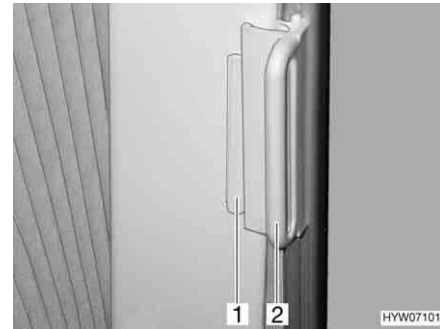

Fig. 13 Roman shade, open
- Open the Roman shades for the driver's and passenger's window and push the guiding handle (Fig. 13,2) onto the cap (Fig. 13,1).